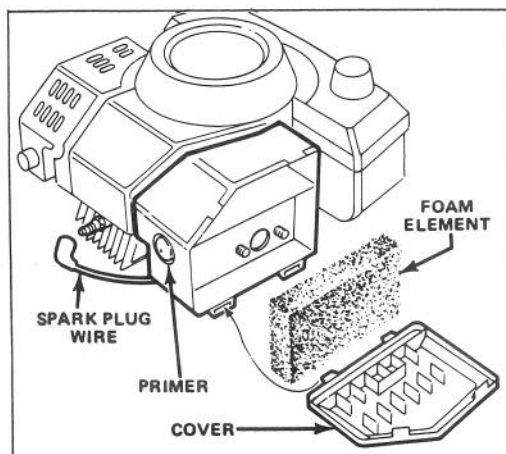

Figure 11
1. Stop engine and pull wire off spark plug (Fig. 11).
2. Lift tabs at top of air cleaner cover and pivot cover down. Clean cover thoroughly (Fig. 11).
3. If outside of foam element is dirty, remove it from air cleaner body (Fig. 11). Clean thoroughly.
2. Clean around spark plug and remove plug from cylinder head (Fig. 11).